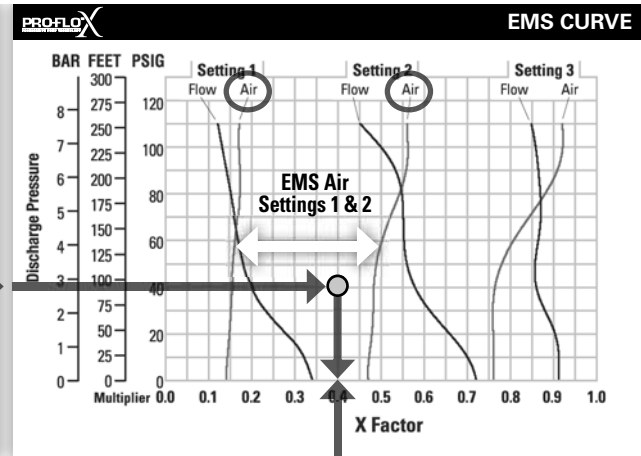

Figure 7
Step 1: Determine air X Factor. In order to determine the air X Factor, identify the two air EMS setting curves closest to the EMS setting established in example 2.1 (in this case, the point lies between the air curves for EMS setting 1 and 2). The point representing your EMS setting (1.8) must be approximated and plotted on the EMS curve along the horizontal line representing your discharge pressure (in this case, 40 psig). This air point is different than the flow point plotted in example 2.1. After estimating (or interpolating) this point on the curve, draw a vertical line downward until reaching the bottom scale on the chart and identify the air X Factor (figure 7).